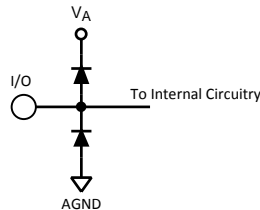

Figure 2.
- (1) The inputs are protected as shown below. Input voltage magnitudes above V_A or below GND will not damage this device, provided current is limited per Note 4 of the Absolute Maximum Ratings Table. However, errors in the A/D conversion can occur if the input goes above V_A or below GND by more than 100 mV. As an example, if V_A is +3.3V, the full-scale input voltage must be $\leq +3.4V$ to ensure accurate conversions. See Figure 2.
- (2) To ensure accuracy, it is required that $|V_A - V_D| \leq 100$ mV and separate bypass capacitors are used at each power supply pin.
- (3) With the test condition for $V_{REF} = +1.0V$ (2V_{P-P} differential input), the 12-bit LSB is 488 μV .
- (4) Typical figures are at $T_J = 25^\circ C$, and represent most likely parametric norms. Test limits are to AOQL (Average Outgoing Quality Level).
- (5) Integral Non Linearity is defined as the deviation of the analog value, expressed in LSBs, from the straight line that passes through positive and negative full-scale.
- (6) Optimum performance will be obtained by keeping the reference input in the 0.8V to 1.2V range. The LM4051CIM3-ADJ (SOT-23 package) is recommended for external reference applications.
- (7) This parameter is specified in units of dBFS - indicating the equivalent value that would be attained with a full-scale input signal
- (3) With the test condition for $V_{REF} = +1.0V$ ($2V_{P-P}$ differential input), the 12-bit LSB is 488 μV .
- (4) Timing specifications are tested at TTL logic levels, $V_{IL} = 0.4V$ for a falling edge and $V_{IH} = 2.4V$ for a rising edge.
- (5) Typical figures are at $T_J = 25^\circ C$, and represent most likely parametric norms. Test limits are to AOQL (Average Outgoing Quality Level).
- (6) This parameter is ensured by design and/or characterization and is not tested in production.